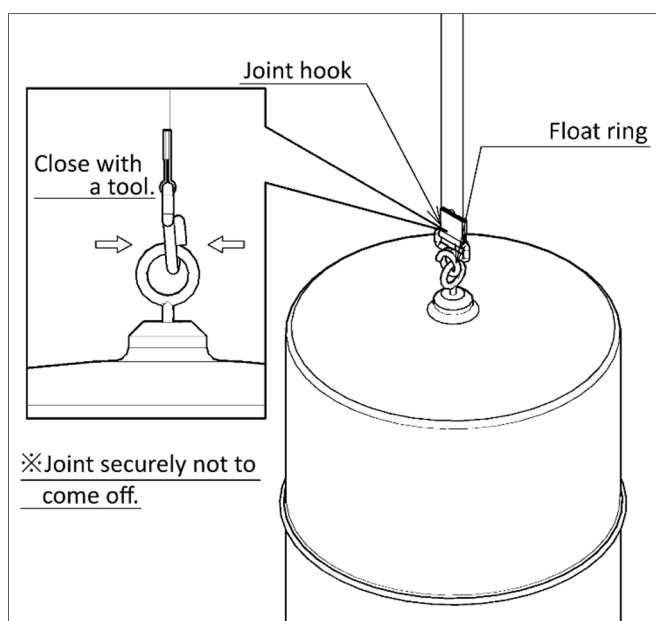

Figure 2. Float and tape joint
- 4.3.2. Pull out the tape by holding the hook from the bottom side of the level gauge flange. Joint it by passing the hook through the float ring. Close the hook with a tool like nipper not to come off from the ring (Refer to Figure 2).
- 4.4.3. Pull out the tape by holding the hook from the bottom side of the level gauge flange, and joint it with the float ring. Close the hook with a tool like nipper not to come off from the ring (Refer to Figure 2).
- ### 4.5.3. Install the level gauge main unit. Pull out the tape from the level gauge by holding the tape hook, and connect to the float inside the tank (Refer to Figure 2). Set the tape without twisting or bending. Fix the level gauge main unit by designated fastener component to finish the installation.
- 4.7.3. Pass through the string from the 90°elbow to the pipe on the tank side and pull out to the level gauge attaching portion, then tie the end of the string to the tape hook of the level gauge. Insert the end of untied string into the tank. Pull the string from the tank and pull and pass the tape hook through the pipe. Check that the tape has no twist or bend from the 90°elbow, then connect the tape hook to the float (Refer to Figure 2). After finishing the connection, remove the string from the tape hook.